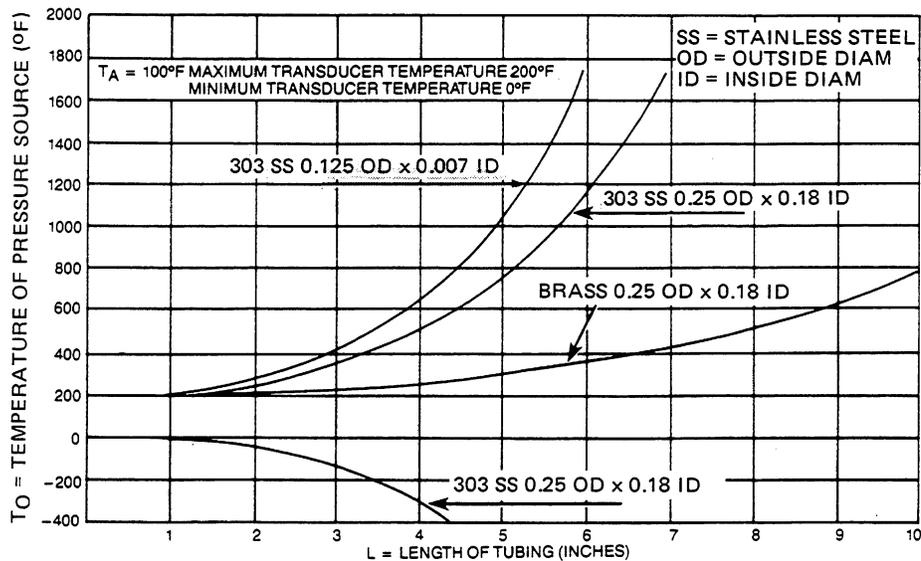

Fig. 1 Tubing length to isolate transducer from temperature source.
The manufacturer provides a graph of "Temperature of Pressure Source" versus "Tubing Length" to help do this. (See Figure 1.) This graph helps technicians choose a transducer to meet their special needs.
**NOTE:** Example A and Figure 1 represent a problem to be solved with the help of graphical data. This problem is typical of those that engineers and technicians solve daily. Take time to go through Example A and ensure that your students can "read" and interpret the graphical data in Figure 1.
When these conditions are satisfied, you can use the graph in Figure 1 to solve the problem in Example A.
**Solution:** Use the graph given in Figure 1.
- The hydraulic oil temperature is 600°F. Find this value as "T0" on the left side of the graph in Figure 1.